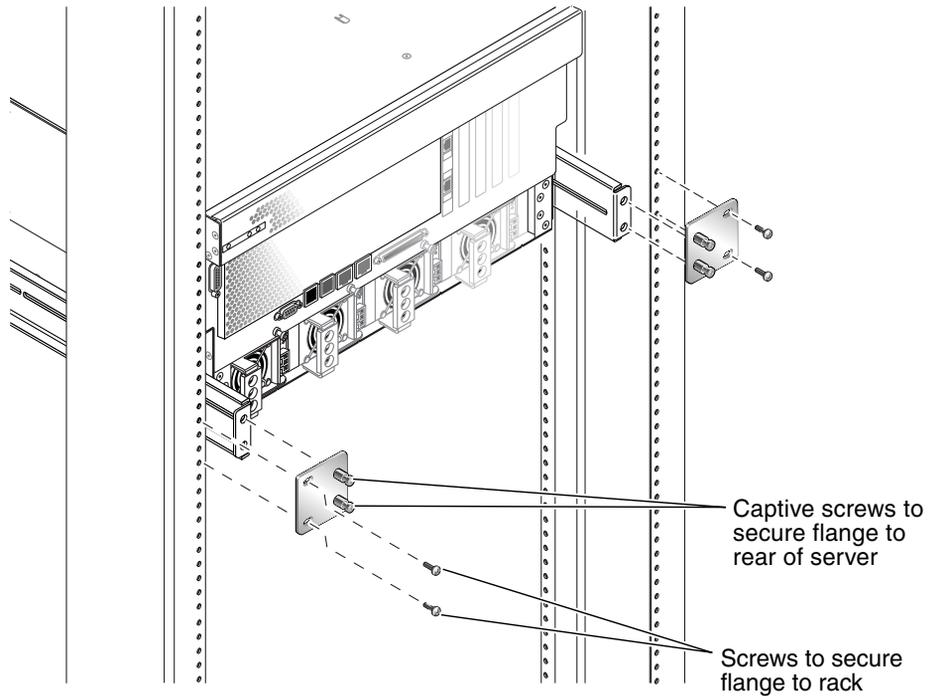

FIGURE 3-20 Securing the Rear Mount Flange
11. At the rear of the rack, use the captive screws to secure the two rear mount flanges to the rear mount support brackets that are attached to the server (FIGURE 3-20).
12. Using two screws for each rear mount support bracket, secure the rear mount support brackets to the rear of the rack (FIGURE 3-20).